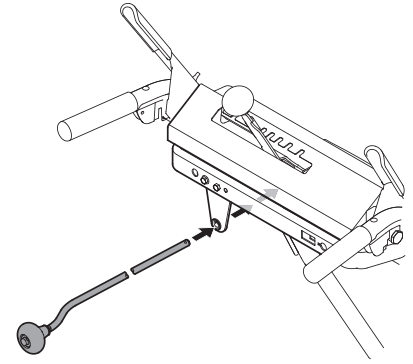

Figure 2-24
4. Insert chute control rod into the support bracket on rear of the dash panel. See Figure 2-24.